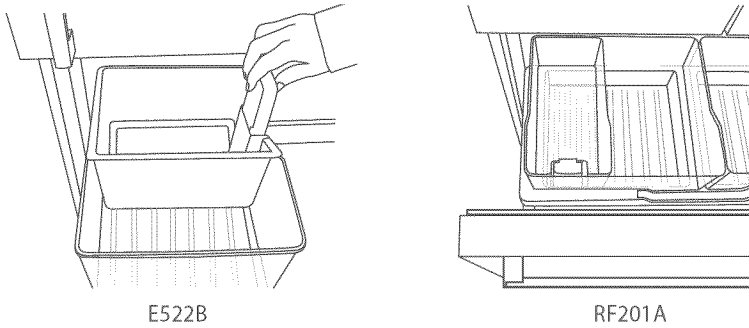

Fig.19 Ice storage bin and scoop in correct position
- If the bin is full, or inserted incorrectly the ice maker will not operate. When the bin is inserted correctly the scoop will be on the right hand side of the bin for models E522B and the front of the bin for model RF201A (refer to Fig.19 on page 20). If the bin is removed the ice maker will not operate